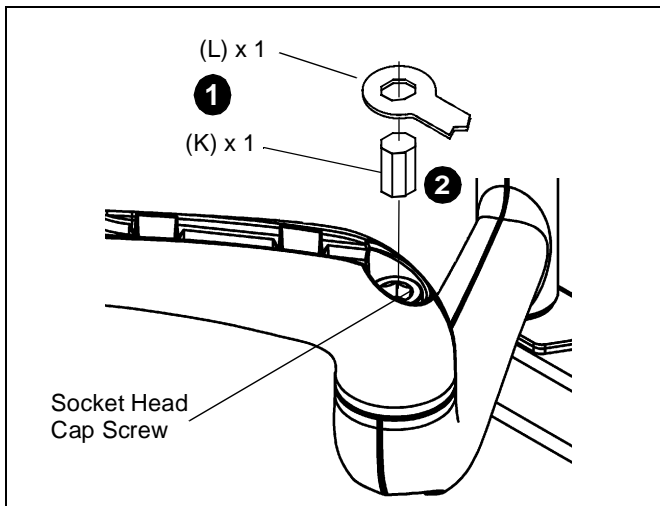

Figure 9
1. Locate the adjustment bar (K) and adjustment wrench (L).
2. Place adjustment bar (K) into socket head cap screw located at swing arm pivot point. (See Figure 9)